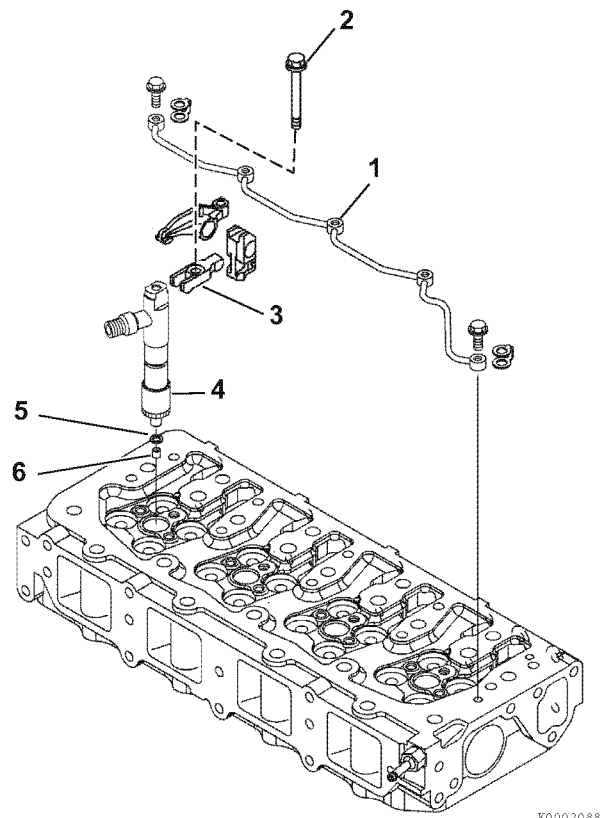

Figure 7-53
3. Remove the injector return line (Figure 7-53, (1)). Be careful not to bend the line.
4. Remove the fuel injector mounting clamp bolts (Figure 7-53, (2)). Lift the injector mounting clamps (Figure 7-53, (3)) away from injector.
5. Remove the fuel injector (Figure 7-53, (4)) from the cylinder head.
6. Remove the injector nozzle protector (Figure 7-53, (5)) and seat (Figure 7-53, (6)) from the cylinder head. Discard both items.